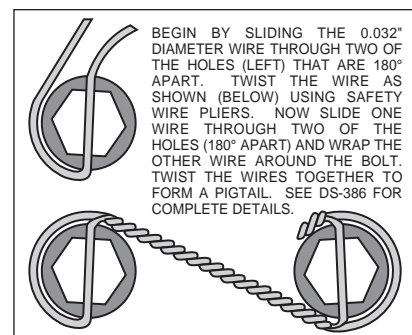

Figure 5. Safety Wire Diagram
- Make sure this is the correct kit to fit the axle housing flange, not necessarily the rear end make. Many times after market manufacturers put a different make of axle housing flange on the stock rear end housing (see Figure 5). Example; Big Ford rear ends with Olds-Pontiac flanges, therefore, an Olds-Pontiac rear disc brake kit would be the correct kit to order. Also, shock clearance may be a problem. They may have to be modified and/or relocated to clear the Wilwood kit after final assembly.
- With the larger I.D. side of the rotor (3) facing away from the hat (2), bolt rotor (3) to hat (2) through the backside of the rotor using washers (4) and bolts (5). Using an alternating sequence, apply red *Loctite*® 271 to the threads and torque bolts to 140 **in-lb**. For an added measure of security, the bolts may be safety wired using standard 0.032 inch diameter stainless steel safety wire as shown in Figure 5.. Please refer to Wilwood's data sheet DS-386 (available at www.wilwood.com/Pdf/DataSheets/ds386.pdf) for complete safety wire installation instructions.